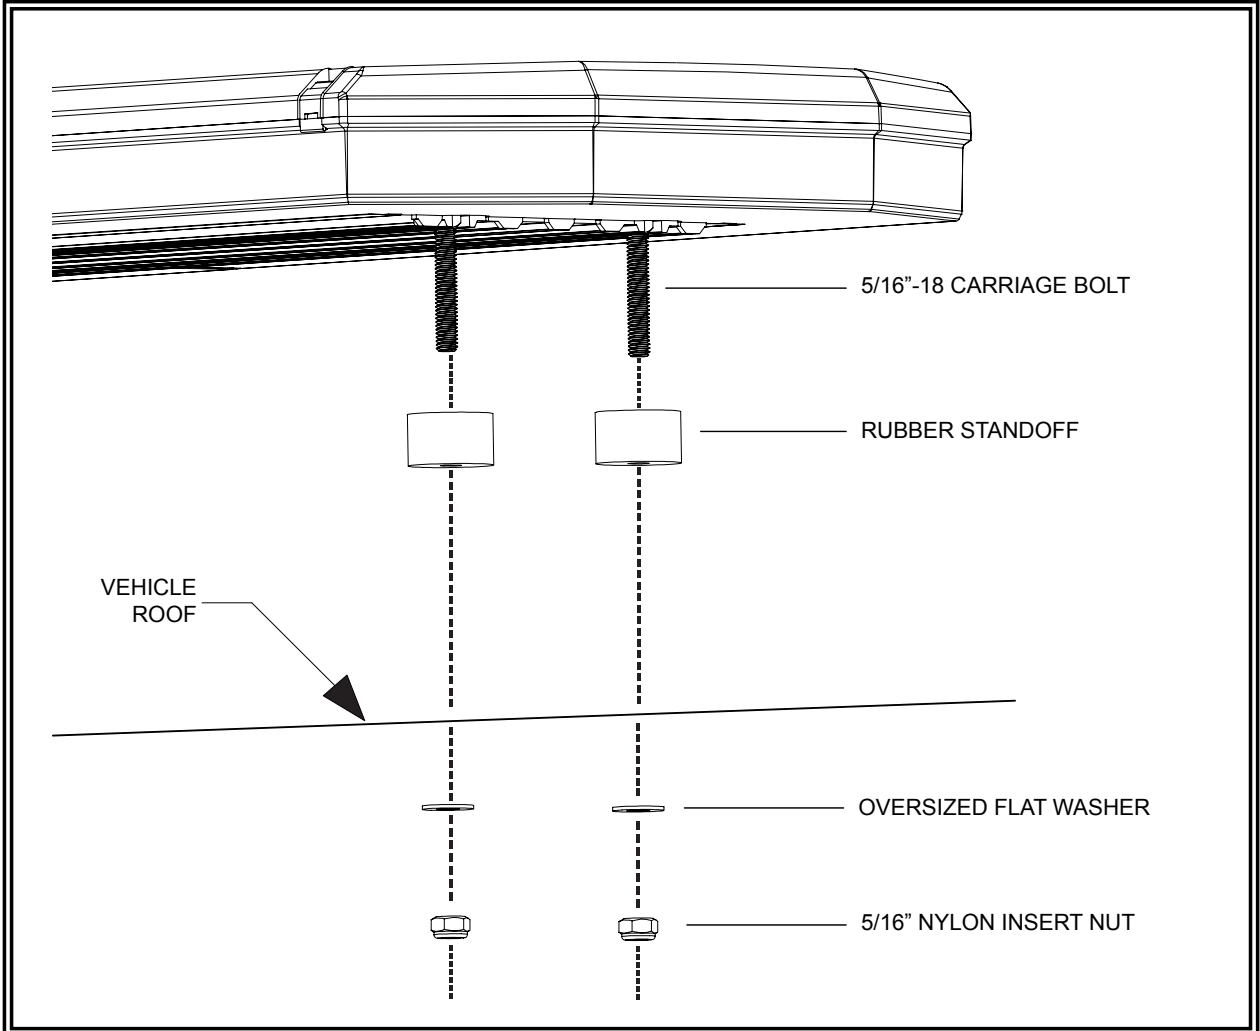

FIGURE 3
4. Mount the lightbar with the rubber standoffs and the carriage bolts going through the holes drilled in the prior step. See FIGURE 3. Install washers and 5/16" nylon insert nuts, and secure the unit.